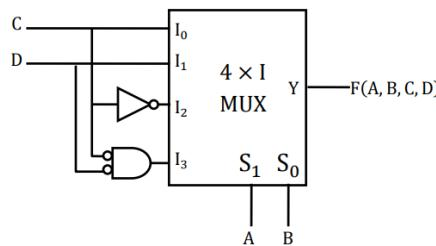

Fig. 3.7
18. Find the Boolean logic realised by the following circuit in Fig. 3.7.